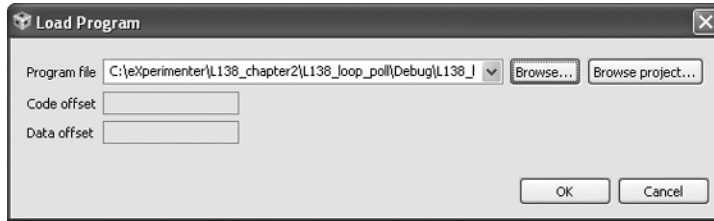

Figure 1.13 Browse to select program L138_loop_poll.out.
- (14) Select *Target > Load program* and *Browse* to find the executable file L138_loop_poll.out in folder c:\e\experimenter\L138_chapter2\L138_loop_poll\Debug, as shown in Figure 1.13.